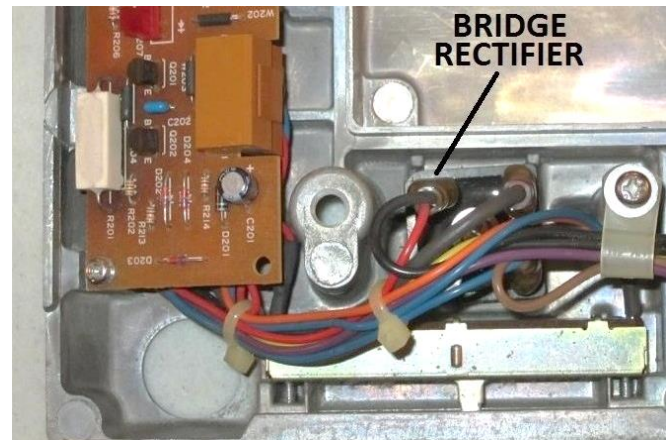
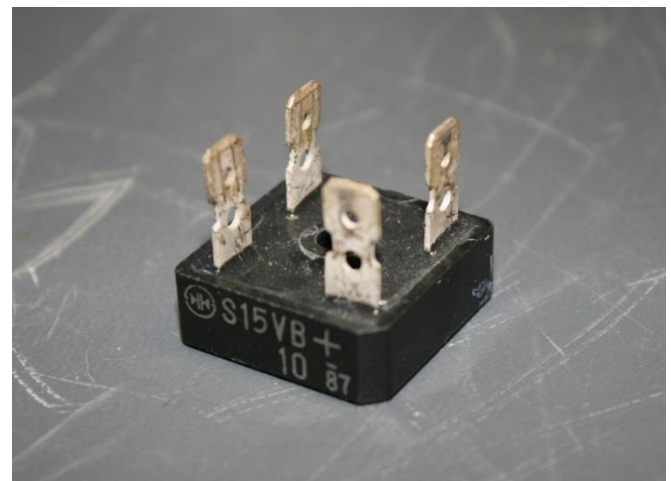

Figure 9 – Bridge rectifier mounted onto the electrical base
Figure 10 – The S15VB10 bridge rectifier
The bridge rectifier is an S15VB10 (100V 15A) chassis-mount bridge rectifier with push-on terminals (see **Figure 9** and **Figure 10**). Suitable substitutes are the NTE5322, KBPC1501, or KBPC1502. The NTE5322 is available from Allied Electronics and from Amazon (item 2 of **Table 20**). If either of these parts cannot be found, look for a suitable substitute with a continuous current rating of 15A or more and with a PIV rating of at least 100V. Be sure when installing the replacement part to fill the interface between the flat mounting surface of the new part and the chassis with thermal paste (item 1 of **Table 2**) to facilitate heat flow and to prevent overheating of the component.